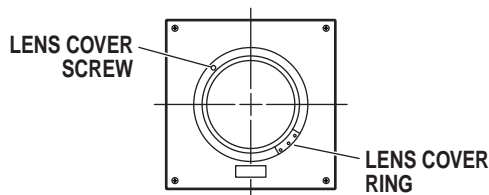

Figure 3.
2. Loosen the screw located on the diffuser lens cover ring and remove the lens cover. See figure 3.